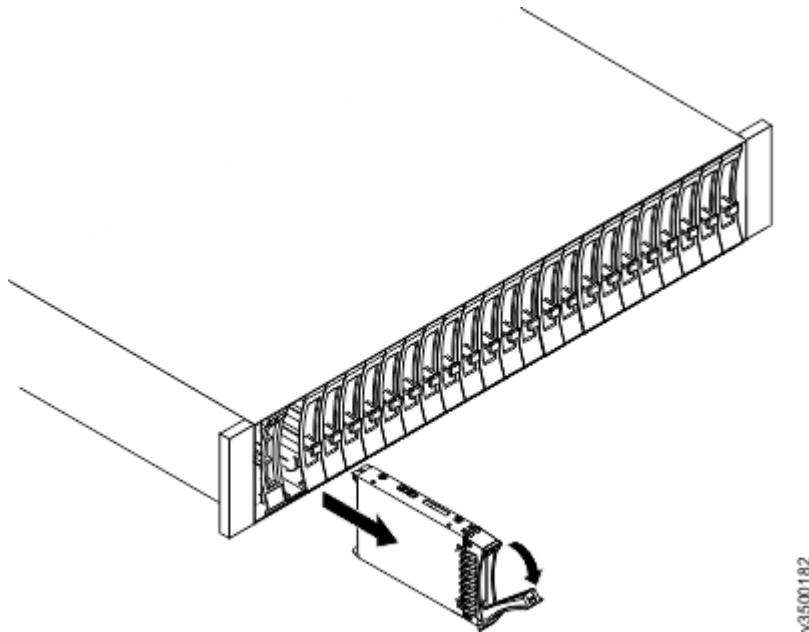
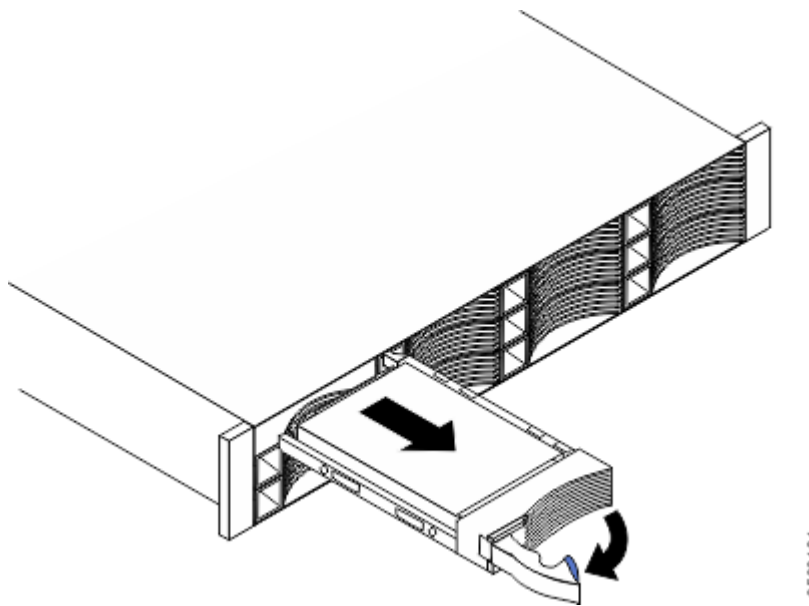

Figure 113. Removing a vertical style hard disk drive
Figure 114. Removing a horizontal style hard disk drive
- Carefully remove each hard disk drive and label it with the drive slot from which it was removed (so that the drives can be inserted back into the same slots). Refer to Figure 113 on page 163 or Figure 114 on page 163.